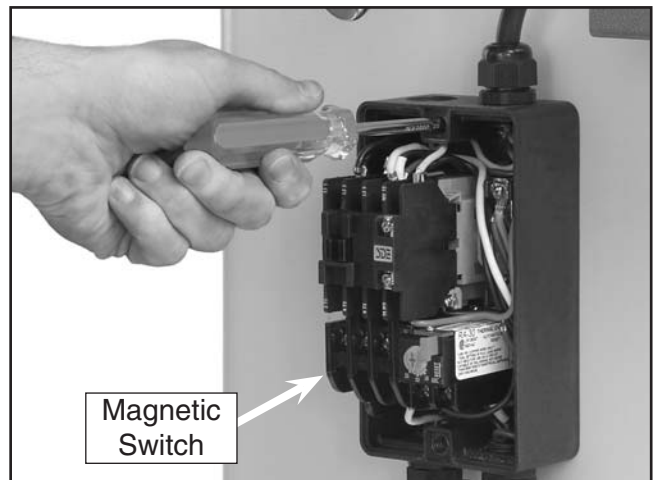

Figure 11. Attaching magnetic switch to stand.
3. Attach the magnetic switch to the jointer stand, as shown in **Figure 11**, using the Phillips head screws, flat washers, and hex nuts.